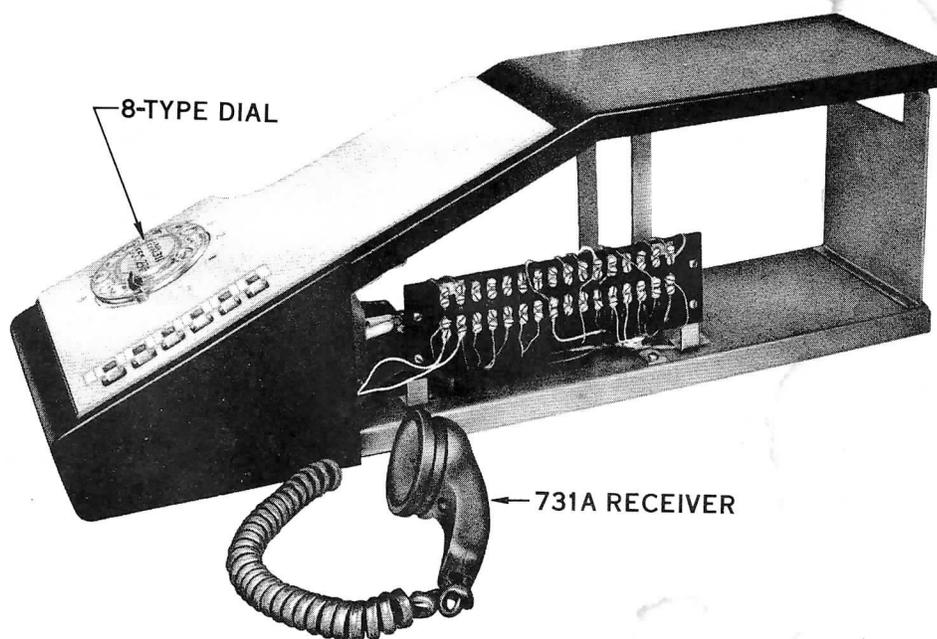

Fig. 8 - 689-Type Subscriber Set
7. 689-TYPE SUBSCRIBER SET (FIG. 8)